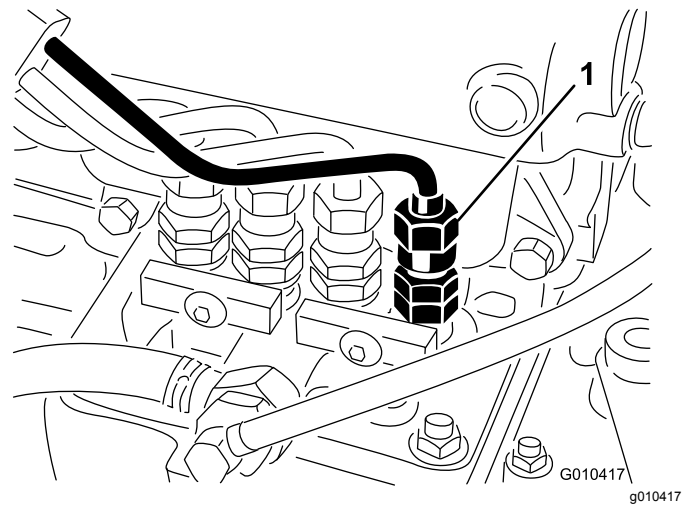

Figure 35
1. Loosen the pipe connection to the No. 1 injector nozzle and holder assembly at the injection pump (Figure 35).